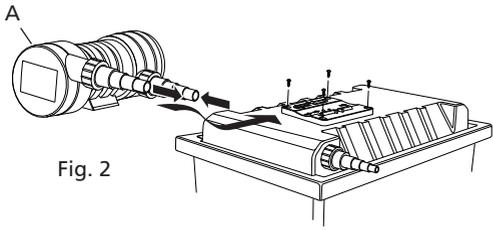

Fig. 2
- 3.3 To mount the unit, first slide the base from the main body. Using 4 suitable fixings, screw the base to the mounting surface. (See fig 2). Slide the main body
Important - the outlet (A) should be at the top of the unit, to ensure no air is trapped inside. (See fig 2 & 3).